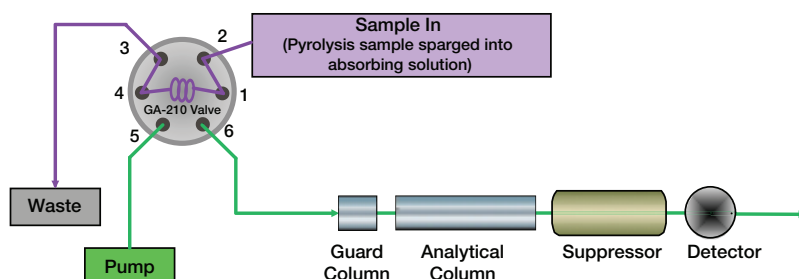
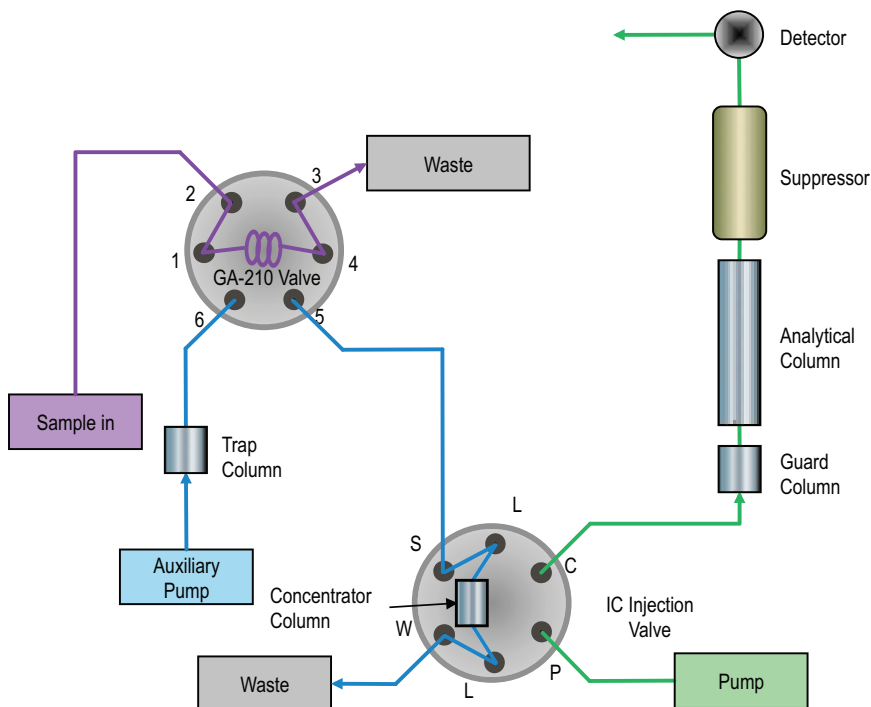

Figure 10. Combustion IC application - direct injection using the injection valve in the Nittoseiko GA-210 Module
Figure 11. Combustion IC application - pre-concentration with matrix elimination
The sample loop is installed on the Nittoseiko GA-210 injection valve. When the sample is ready for IC analysis, the Nittoseiko GA-210 module loads the sample loop. The schematic is shown in Figure 10.
Plumb the system as shown in Figure 11:
– This Dionex IC PEEK Viper fitting is used in the setup shown in Figure 11 (preconcentration), but not in Figure 10 (direct injection using the Nittoseiko GA-210 injection valve).
4. Complete the installation according to flow diagram in Figure 10 or 11.